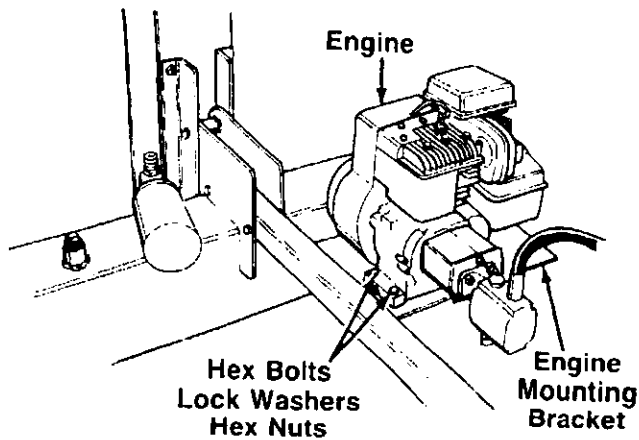

FIGURE 7.
2. Place the engine and pump assembly in position on the engine mounting bracket as shown in figure 7. Secure with hardware just removed. Tighten securely.